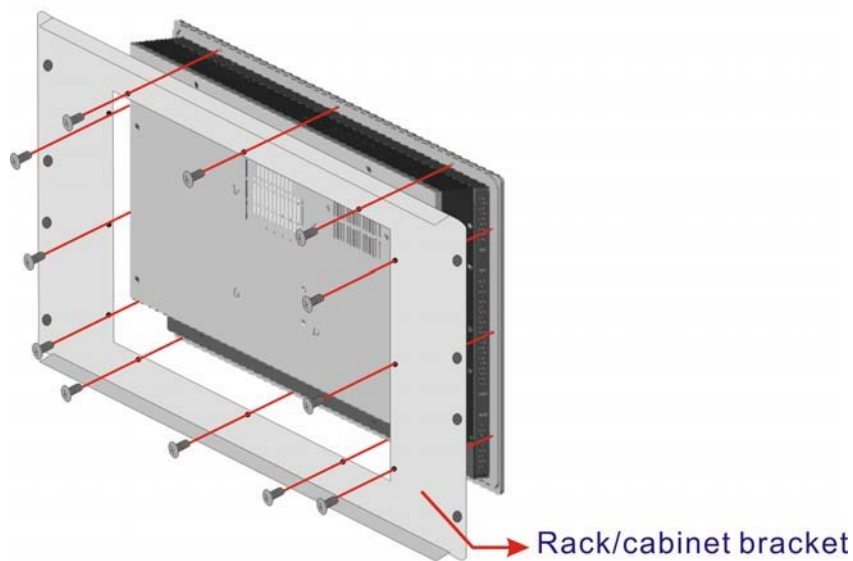

Figure 3-18: Secure the Rack/Cabinet Bracket
Step 4: Secure the rack/cabinet bracket to the 2901280 flat panel PC by inserting and tightening 12 retention screws. (See **Figure 3-18**)